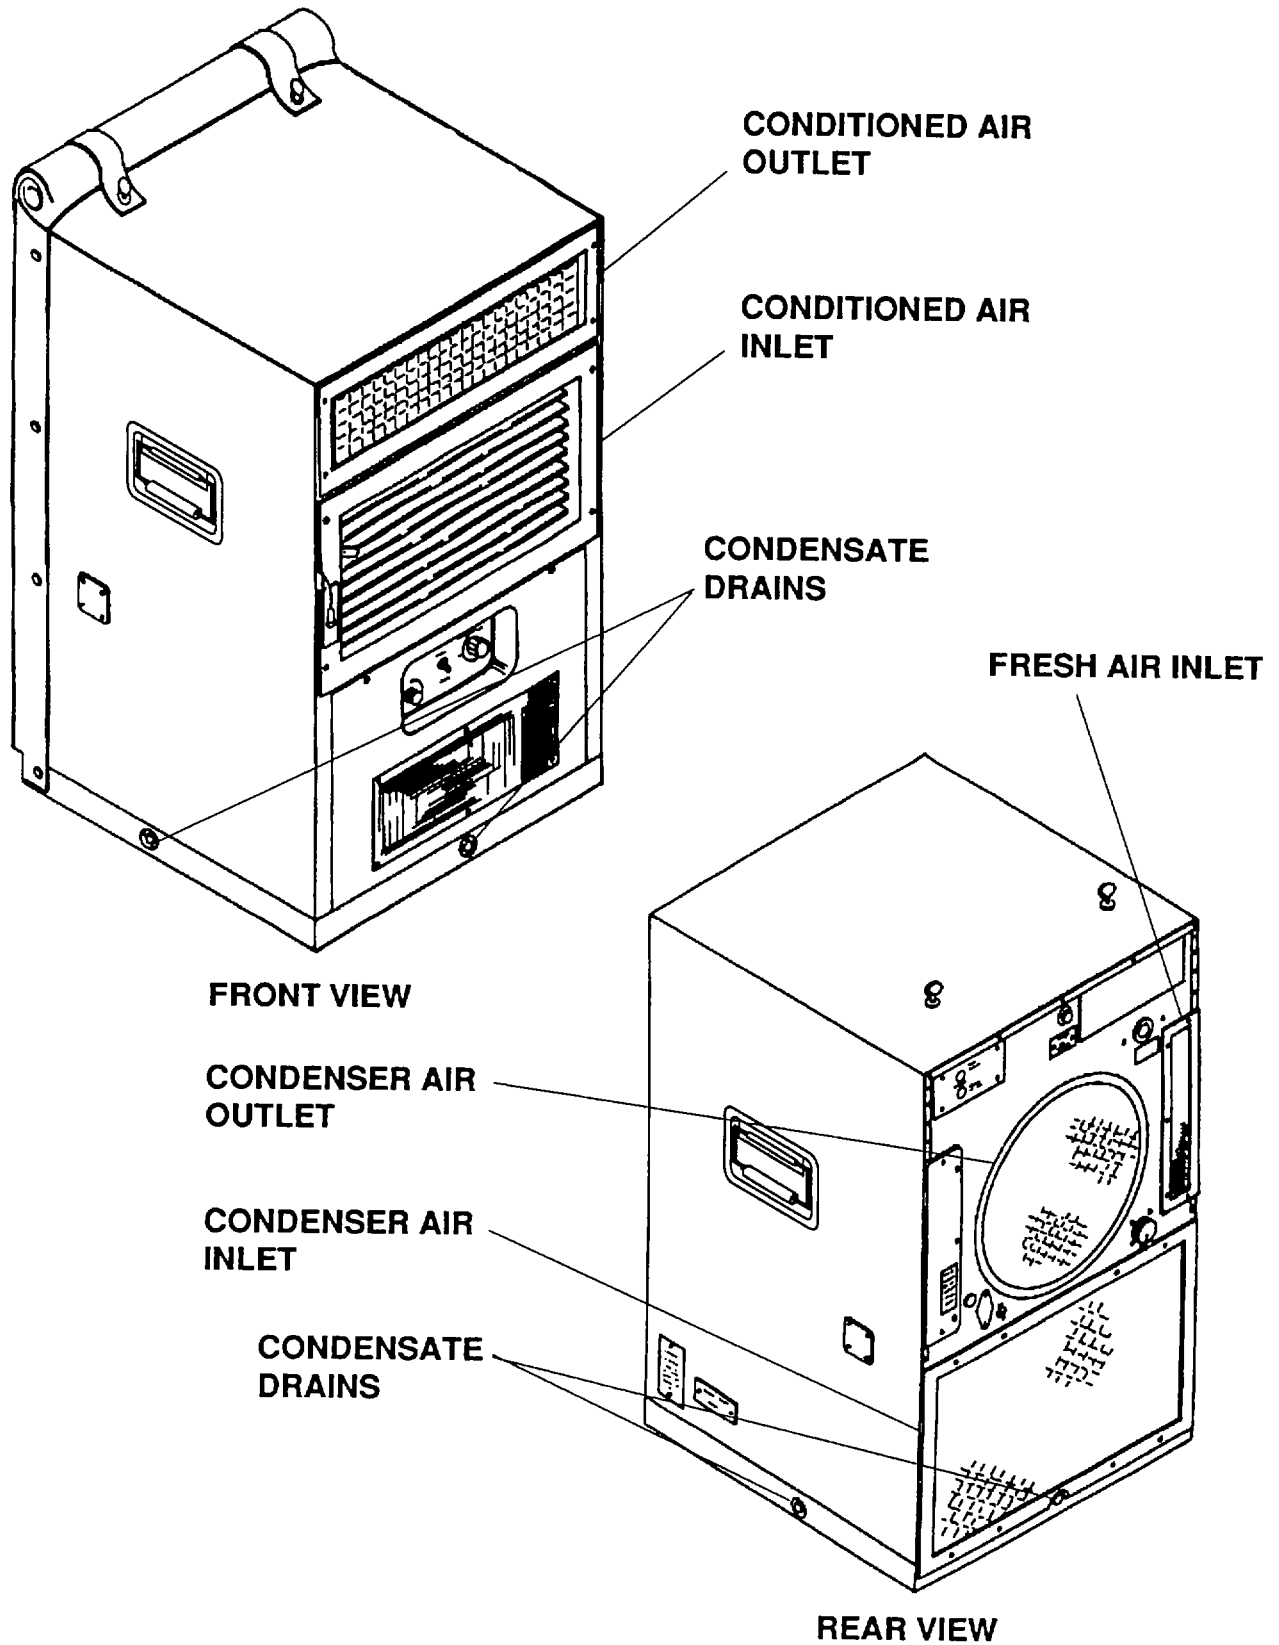

Figure 2-4. Openings and Drains
(3) Check that all air inlet and outlet openings are clear (fig. 2-4).
(4) Check that drains are either open or piped to a satisfactory location with a proper drain system.
(5) Table 2-2 lists recommended control settings for the desired mode of operation. Minor adjustments may be made to get the desired mixture of recirculated and fresh air and the air flow patterns of conditioned air.